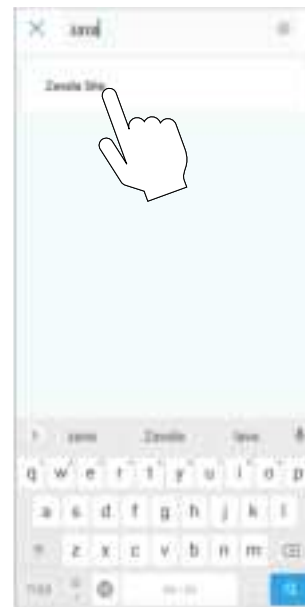

Figure 136. Choose Organization
4. “Choose organization” screen will be displayed and it will show all the available organizations. Navigate the sub Organization list or use the search tool to locate desired organization. See **Figure 136**.